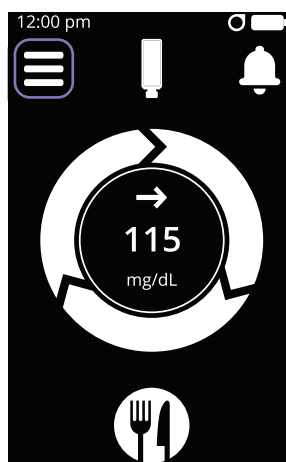

Figure 90
- From the **Home** screen, tap the **Menu** icon in the upper left corner (see Figure 90).